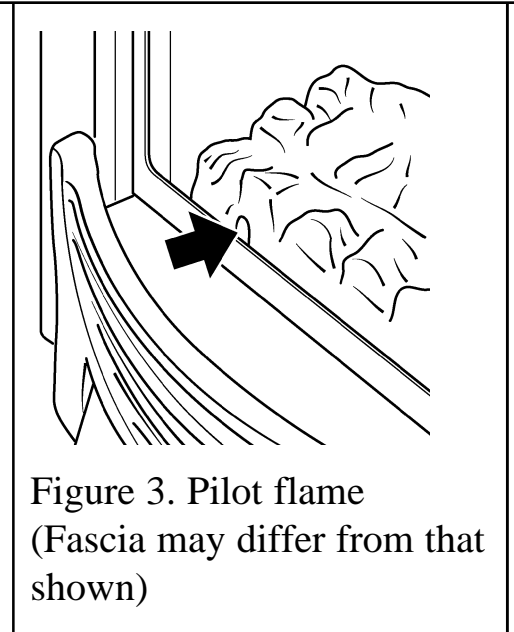

Figure 3. Pilot flame
- Push in the right control knob (the pilot lighting knob) and, while keeping it depressed, turn anticlockwise through the ignition position marked  and up to the pilot position marked . The spark should light the pilot. The pilot flame can be seen by looking through the gap near the front left side of the ceramic fuel effect (See figure 3).